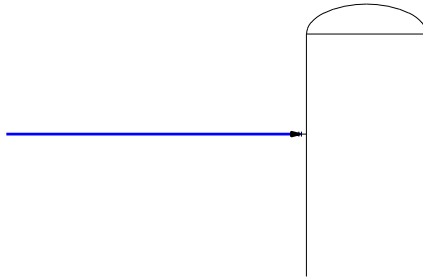

Figure 2-49 Line connected to the vessel
1. Invoke the **Primary Line Segment** tool and specify the start point as (4,13). Next, move the cursor horizontally toward right and specify the endpoint on the vessel; the line is created, as shown in Figure 2-49. Note that this line will be referred as feed line in this tutorial.